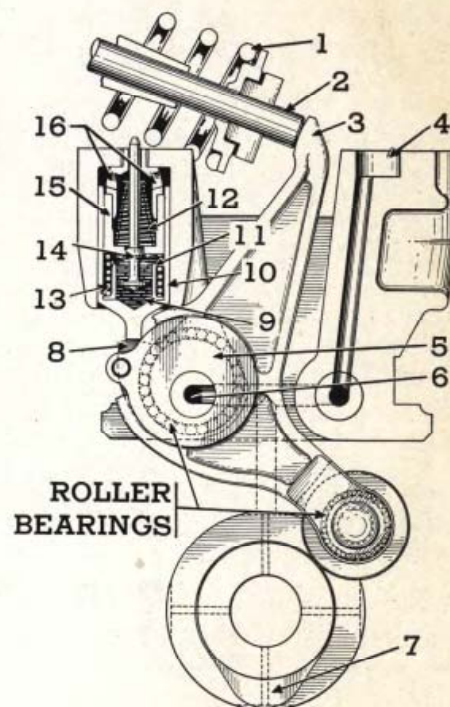

Fig. 5A—Valve Silencer Mechanism
**Twelve Valve System**—Tappet noises persisting after several minutes of running indicate dirt in silencer units. Dirt is usually removable by flushing with kerosene or half and half solution of benzol and alcohol. Remove valve cover plate. Noisy rockers will be the ones showing free travel when pressure is exerted on valve end of rocker. Fill port at top of noisy silencer unit with cleaning fluid, then depress and release valve stem "14" Fig. 5A ten to 20 times, adding fluid as needed. Turn engine until silencer units are filled from engine oiling system, then check tappet clearance of all rockers. If any show free travel, repeat the flushing procedure. In rare cases it may be necessary to remove the assemblies to eliminate all dirt.